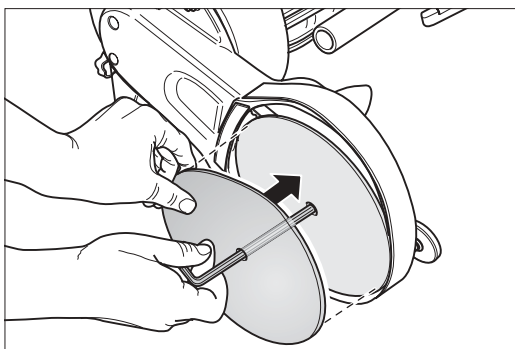

Fig. 46: To centre the sanding disc, insert the Allen key into the hole of the sanding disc and then into the hexagon socket of the sandpaper tensioning screw.
- 6 Set the Velcro sanding disc in place by inserting the Allen key in the hole of the sanding disc first and then into the hexagon socket of the sandpaper tensioning screw (Fig. 46). Then move the sanding disc up to the sanding disc wheel so that it rests precisely in centred position on the sanding disc wheel.